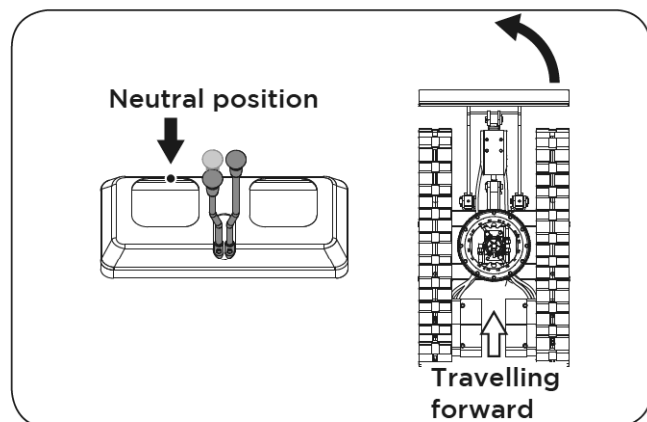

Figure 56
1. While travelling forward, pull back the left drive lever into the neutral position, and keep pushing the right lever in the forward position, the excavator will turn to the left. (See **Figure 56**)